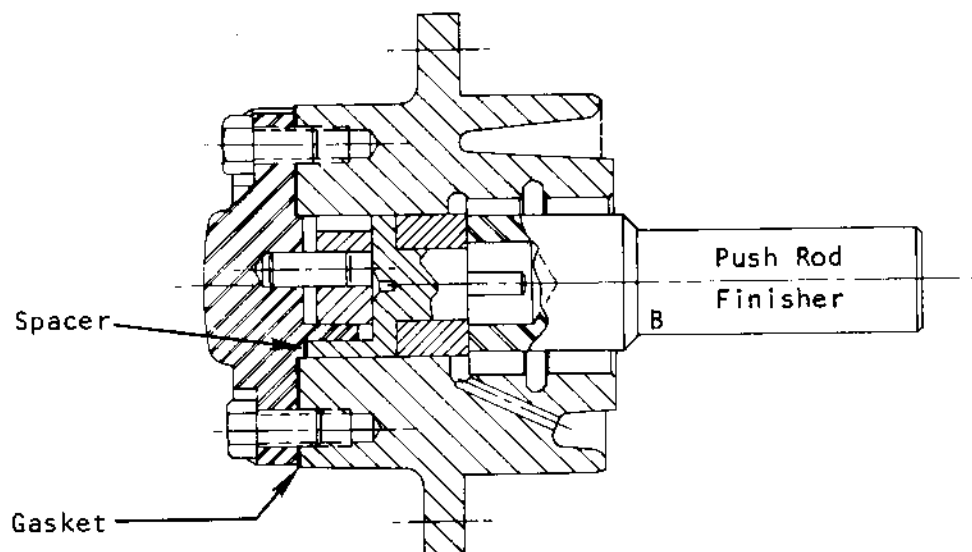

FIGURE 8
5. Place spacer between oil pump cover and rotor and install oil pump and gasket in bearing head. Torque cap screws to 23 foot lbs. (Figure 8).